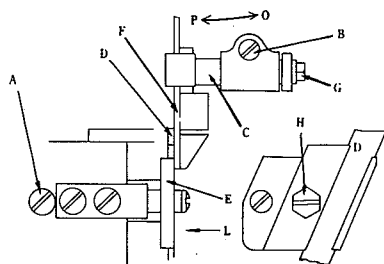

Fig. 11
11. Regulation of seam width (See Figure 11)